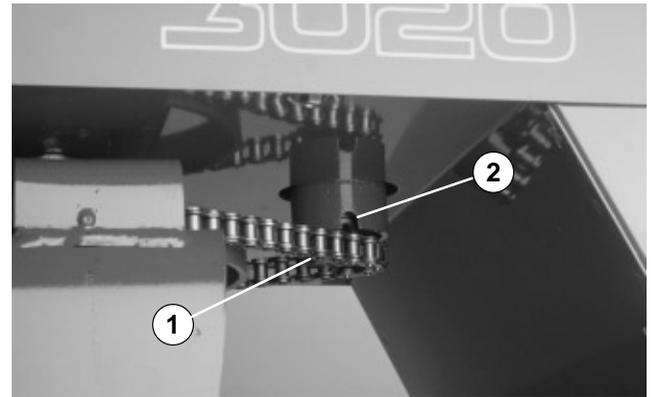

Figure 17
2. Remove drive-lock pin from the sprocket and lower steering shaft with drift punch (Fig. 17).
3. Secure sprocket to the lower steering shaft with new drive-lock pin (Fig. 17).
4. Remove drive–lock pin from the sprocket and lower steering shaft with drift punch (Fig. 17).